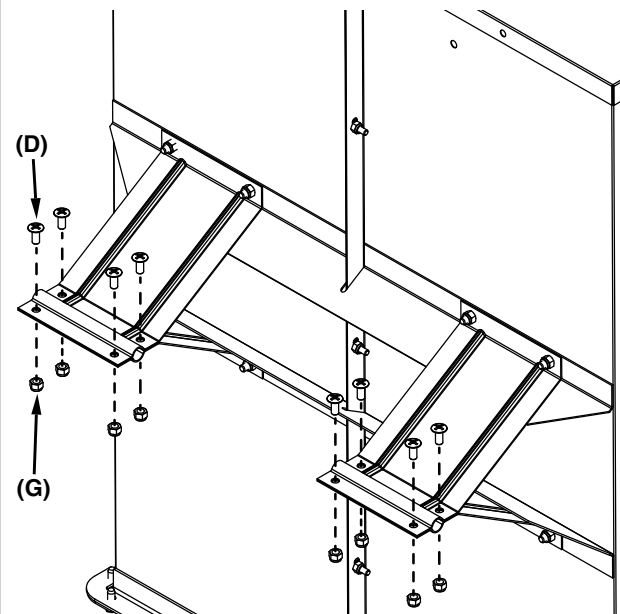

Figure 13
**STEP 13 (SEE FIGURE 13):** Secure the wheel supports using eight 5/16" x 3/4" truss head bolts (D) and 5/16" nylock nuts (G). **Do Not Tighten!**